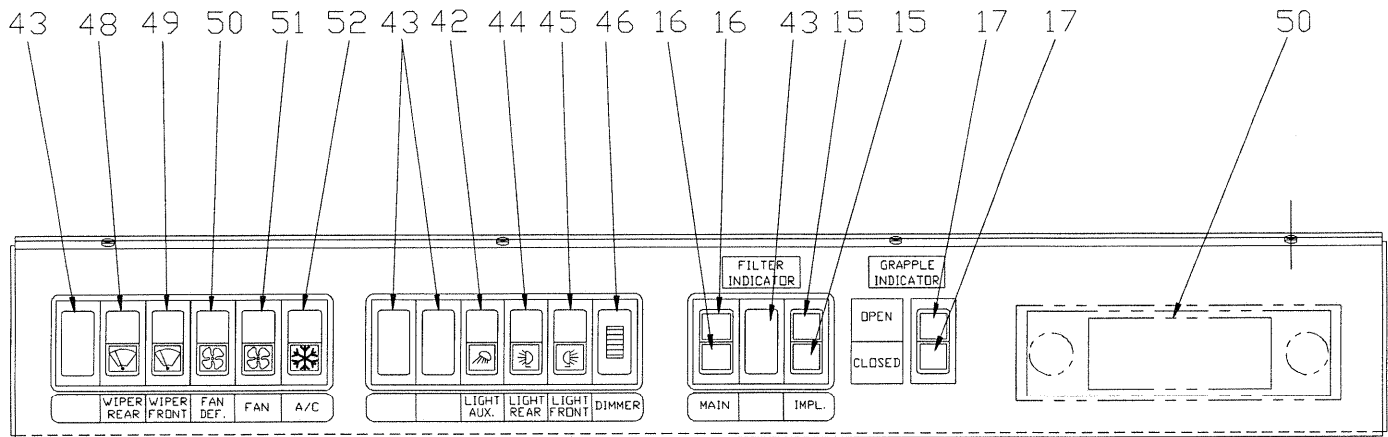

Fig. 3-14 Overhead Console
15. Implement System Supply Filter Indicator Lights* See Fig. 3-14
16. Steering and Boom System Supply Filter Indicator Lights* See Fig. 3-14
42. Auxiliary Lights Switch See Fig. 3-14
43. Blank Bezels See Fig.3-14
44. Rear Lights Switch See Fig.3-14
45. Front Lights Switch See Fig.3-14
46. Panel Lights Dimmer Control See Fig.3-14
See Fig.3-14
51. Cab Heater/Air. Cond. Fan Switch See Fig.3-14
52. Air Conditioner Switch See Fig.3-14